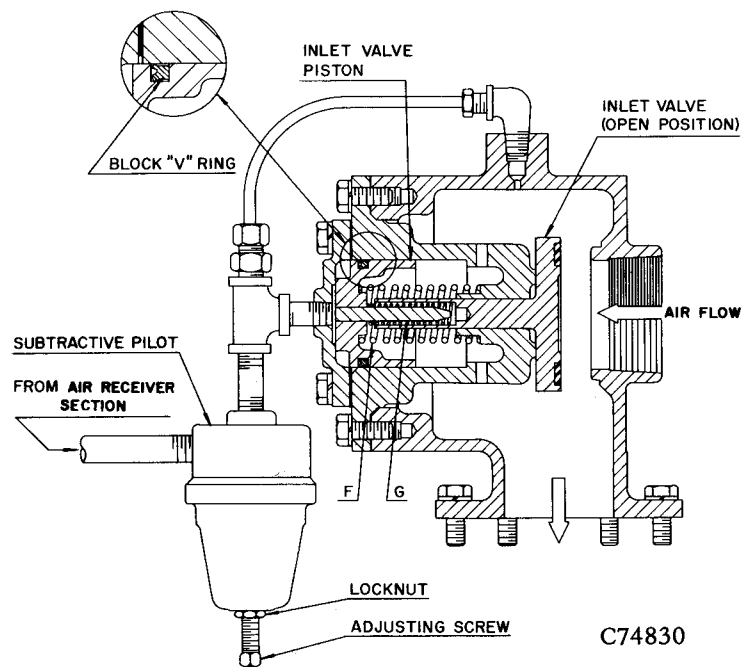

FIGURE 3-2. – INLET VALVE FOR CONSTANT SPEED CONTROL
**CONSTANT SPEED CONTROL SYSTEM** (Figures 3-2, 4-2 & 5-2) — The Constant Speed Control system is used where requirements for air are high for long periods, causing the unit to remain loaded most of the time. The "On-Off" switch and instrument panel is shown in Figure 4-2. The control is a stepless pneumatic system which regulates the compressor inlet to match the air demand made on the compressor. Effective from 0 to 100% of compressor capacity, the system opens the inlet valve as air is drawn from service valve, maintains a constant valve opening as air demand levels off, or closes the valve when the demand ceases. This system includes the subtractive pilot and inlet valve.
**Inlet Valve (Figure 3-2)** – The inlet valve is a piston-actuated device which controls the compressor inlet and operates on air pressure from the subtractive pilot. The valve is closed when full pressure is on the system and changes degree of opening in direct response to system pressure changes.